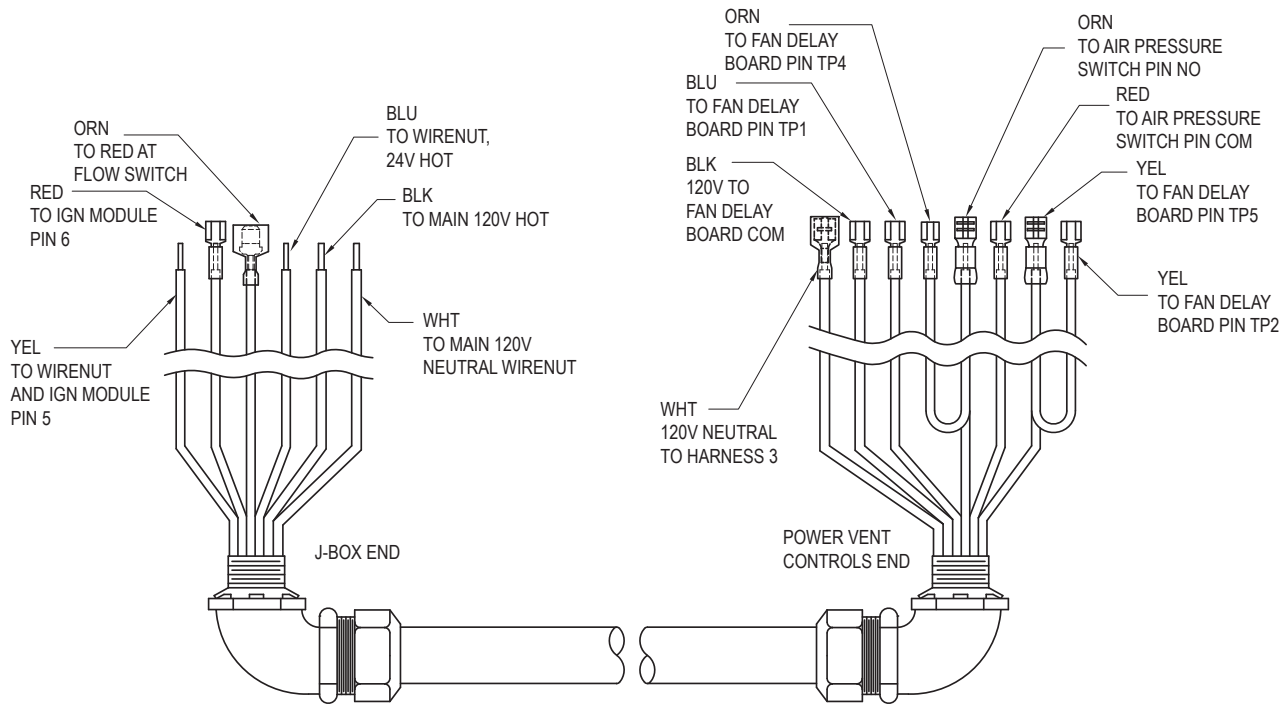

Figure 6. Harness 2, Models 0514-0824
9. Connect the wires to the wiring inside the J-box per **Figure 6**. Disconnect the RED wire from pin 6 on the ignition module. Leave the other end attached to the flow switch; that wire will connect to the ORN wire on HARNESS 2. Connect the 120V BLK that powers the heater to one of the poles exiting the 2-pole power switch.